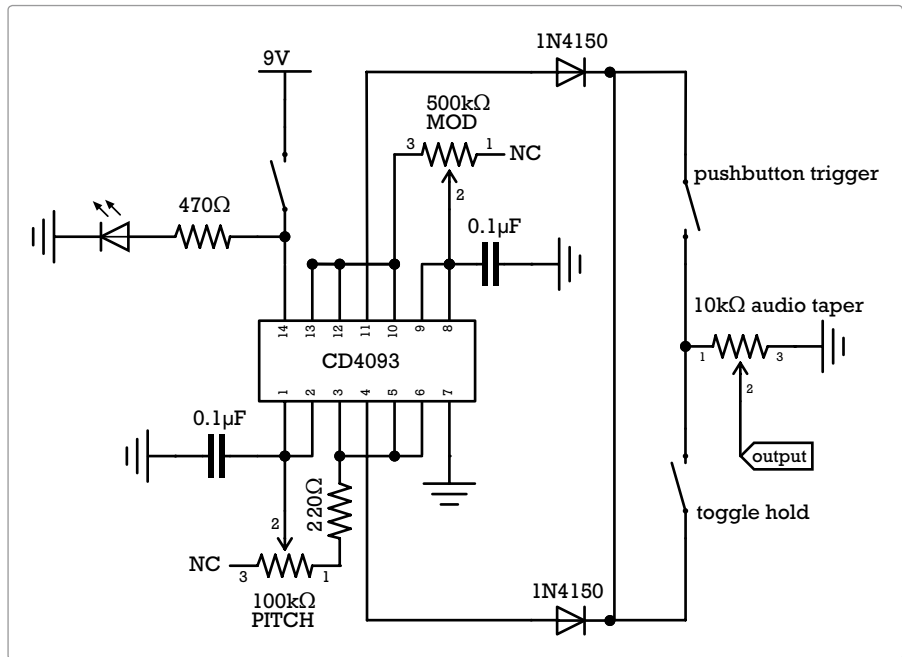

FIGURE 15-7: *The circuit diagram for the Single-Chip Space Invader Synth*
Now that the hardware is done, it's time to take a look at the circuit diagram, shown in Figure 15-7.
- ▶ Add a pushbutton mute—like the one in the Scratchbox (Project 5)—to the modulation oscillator. Muting the modulation oscillator allows you to immediately convert your complex, multitone timbre to a pure square-wave tone. To add such a mute, add a normally closed pushbutton switch—abbreviated NC⁸—just before the diode in the upper half of the circuit diagram in Figure 15-7. (This will involve desoldering the diode’s positive lead from pad I6 and inserting the switch between the diode and PCB).